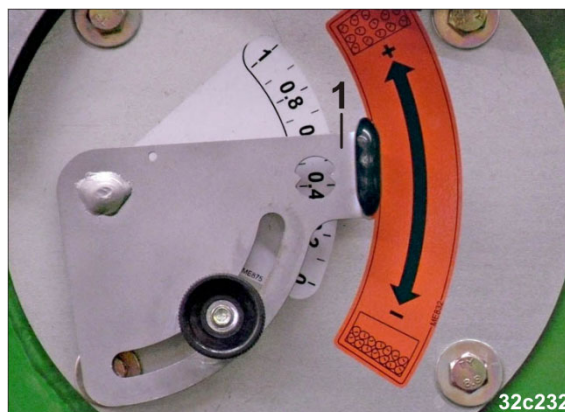

Fig. 285
5. Move the air deflector lever (Fig. 285/1) from stop to stop several times with the fan running.